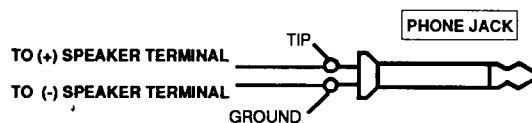

Figure 5
- B. Figure 5 shows a typical 2-conductor, 1/4" phone plug. Quality speaker cable has one lead marked so that you can be sure to connect each end of the same wire to the like terminals (e.g. marked wire ends to both positive terminals).